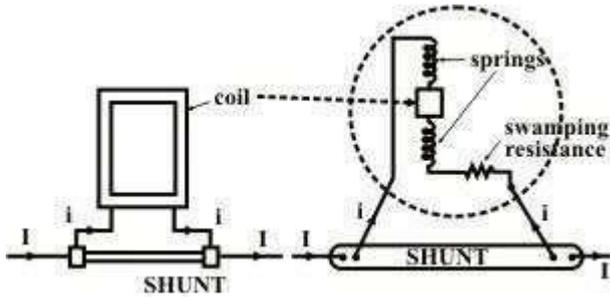

Fig.7.4 Multi-range ammeter circuit.
*temperature coefficient of resistance ) is connected in parallel to the moving coil as shown in Fig.7.4 and instrument may be calibrated to read directly to the total current.*